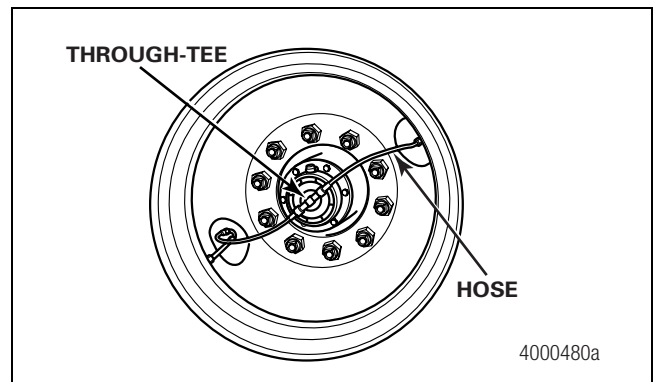

Figure 3.11
13. Check the wheel ends to verify that the tire inflation system hoses do not contact the wheels. Figure 3.11.